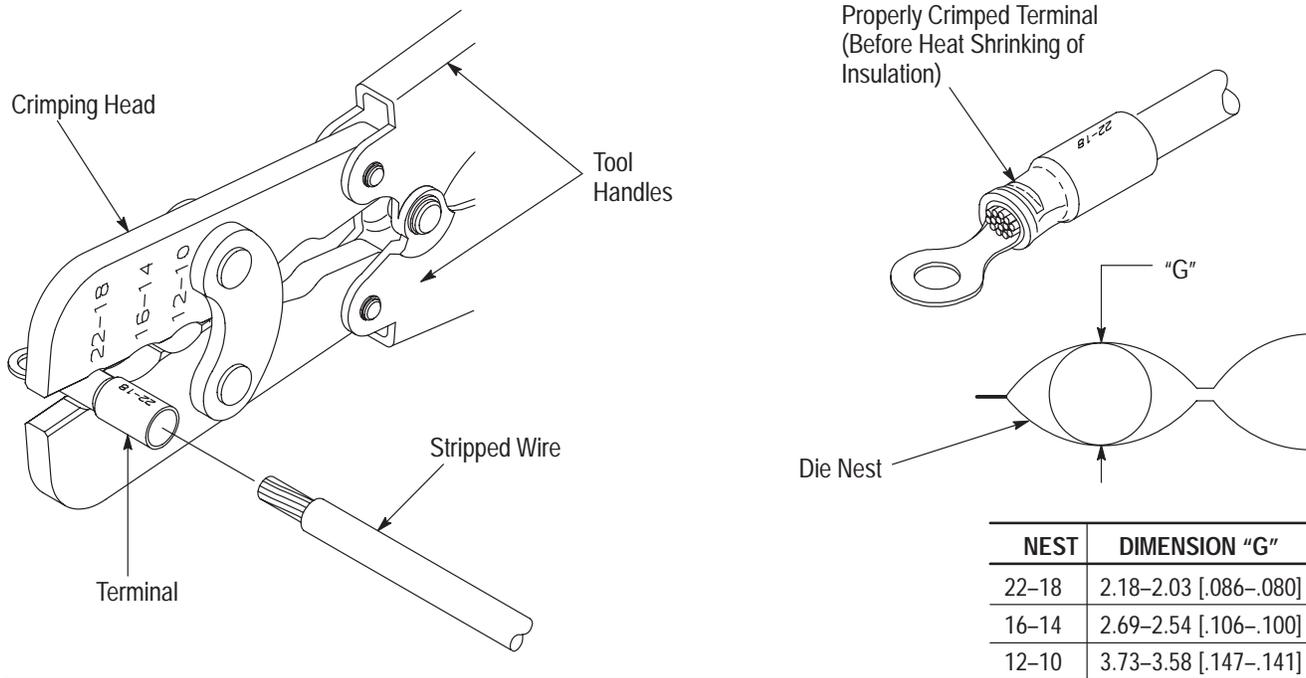

Figure 3
To open the tool, close the handles past the ratchet release position which will allow the jaws to fully open. Proceed with the following steps as shown in Figure 3.
2. Squeeze tool handles together just enough to hold wire barrel in place. See Figure 3.
4. Holding the wire in place, squeeze tool handles until the ratchet releases and allows the jaws to spring open. The crimp is now complete. See Figure 3.